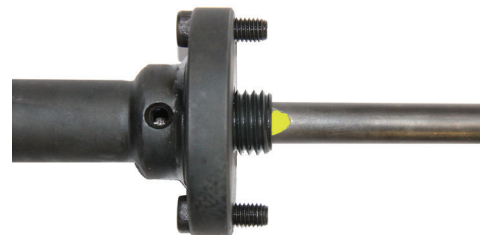

Figure 20
2.11.8) Align the pilot drill flat with the Allen-head set screw and insert the pilot drill through the center of the saw mandrel stud (see Figure 20).